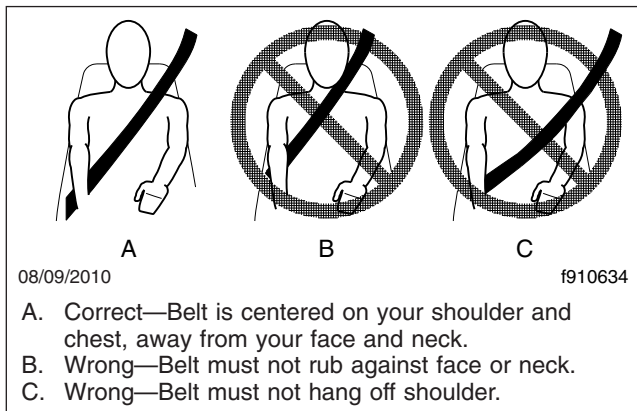

Fig. 7.8, Proper Shoulder Strap Fit
3. Position the shoulder strap diagonally across your chest with the adjustable D-loop bracket (if equipped). The shoulder strap must be centered on your shoulder and chest, away from your face and neck. See **Fig. 7.8**. If desired, engage the Komfort Latch as follows.
5. Position the shoulder strap diagonally across your chest with the adjustable D-loop bracket (if equipped). The shoulder strap must be centered on your shoulder and chest, away from your face and neck. See Fig. 7.8.